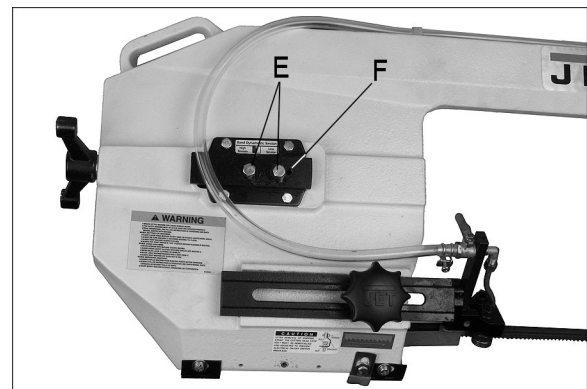

Figure 21
5. If blade will not track in position, loosen screws (E, Figure 21), but do not remove.
6. Turn set screw (F, Figure 21) counter-clockwise so that blade starts to move away from the flange; then immediately turn set screw in the other direction so that blade stops, then moves slowly back toward flange. NOTE: This adjustment is sensitive; do it gradually and in small increments allowing blade to respond to the changes.
10. Tighten two screws (E, Figure 21).